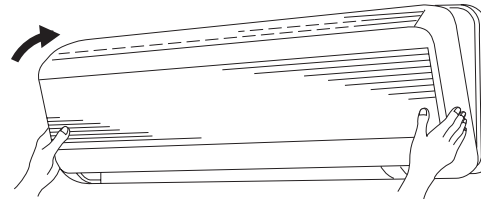

Fig. 3-41a
- (1) Close the flaps.
- (2) Reinstall the grille into the lower part while aligning its tabs on the upper part. (Fig. 3-41a) Insert the tabs in the slots and push the lower part of the grille back into position.